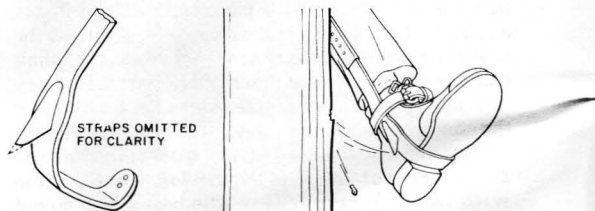

Fig. 12—Dull Gaff
5.06 Figures 12 and 13 show two of the principal causes of climber cutout due to unsatisfactory gaff conditions. A dull point or dull cutting edges results in insufficient gaff penetration as shown in Fig. 12 causing the resultant cutout. If the straight ridge of the gaff is altered as indicated in Fig. 13, a prying action is produced that will cause climber cutout. Under no circumstances should any part of the gaff be altered by filing. Proper field maintenance of factory shaped gaffs is described in Part 7.